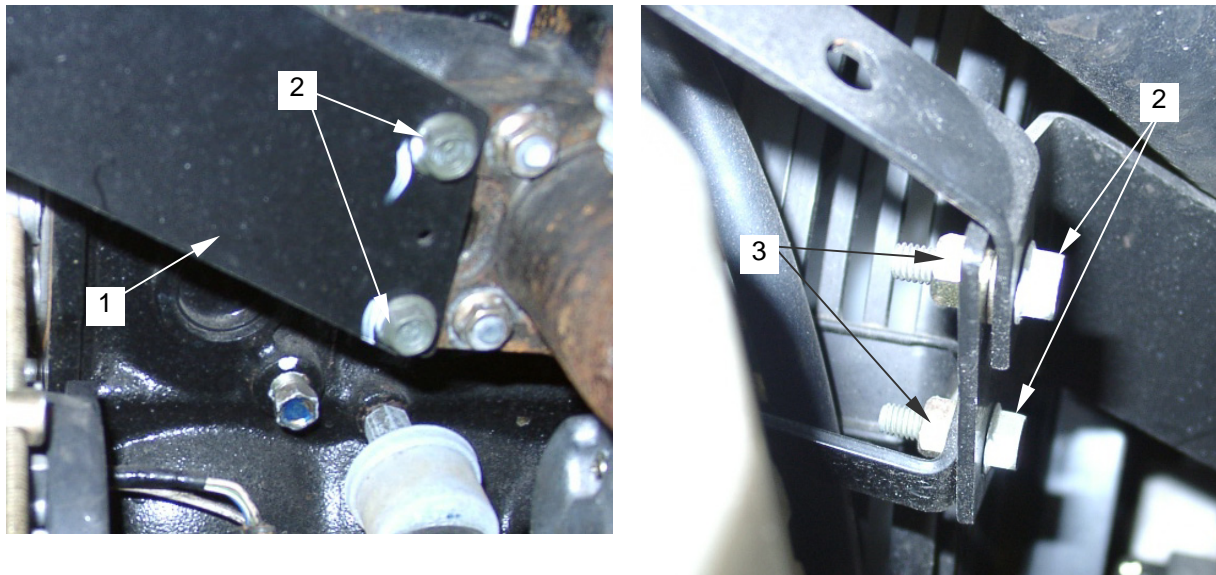

Figure 20. Radiator Bracket
- j. Install radiator bracket (figure 20, item 1).
- k. Fasten radiator bracket in place with mounting bolts (figure 20, item 2) and nuts (figure 20, item 3).